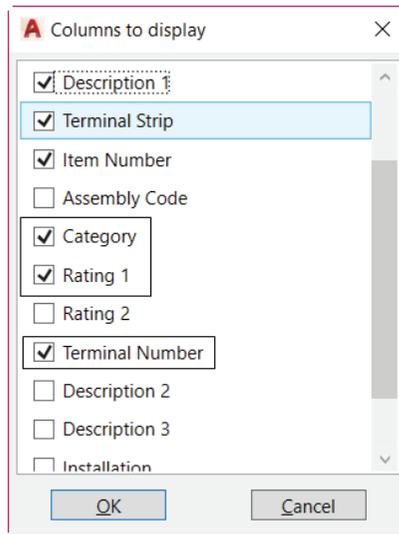

Figure 2-82 The *Columns to display* dialog box
- Scroll down in the **Columns to display** dialog box and select the **Category**, **Rating1**, **Location** and **Terminal Number** check boxes, as shown in Figure 2-82. Next, choose **OK**; the **Category**,